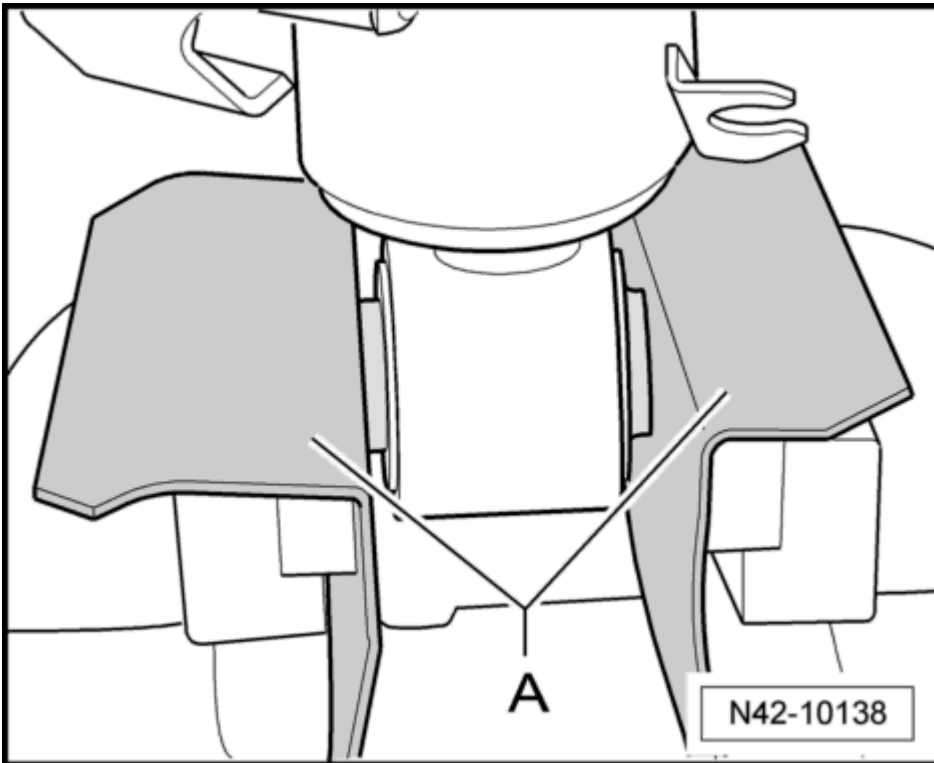

Fig. 21: Lower Mounting Point
1. Clamp the air-spring strut on the lower mounting point (use aluminum protective jaws -A- !). See **Fig. 21**.